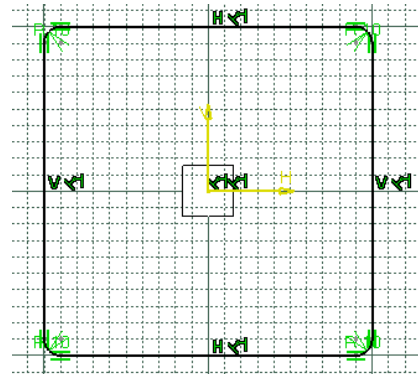

Figure 3-45 The final outer loop of the sketch
8. Similarly, fillet the other corners of the rectangle by following the procedure mentioned in preceding steps. The final outer loop of the sketch, after filleting all vertices, is shown in Figure 3-45.